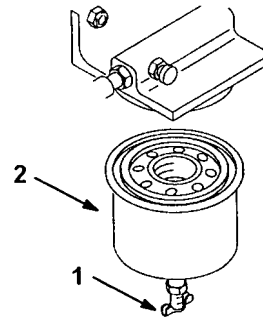

Figure 27
4. Open the drain valve (Fig. 27) and drain the fuel from the fuel filter into a suitable container and dispose of it properly.
5. Remove the fuel filter with a filter wrench (Fig. 27).